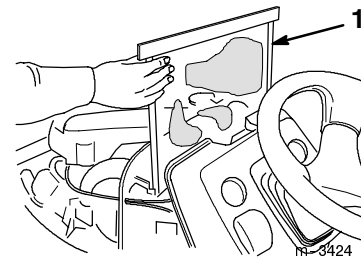

Figure 9
- Pull the radiator screen (Fig. 9) up from the retention slot between the radiator and the tractor dash.